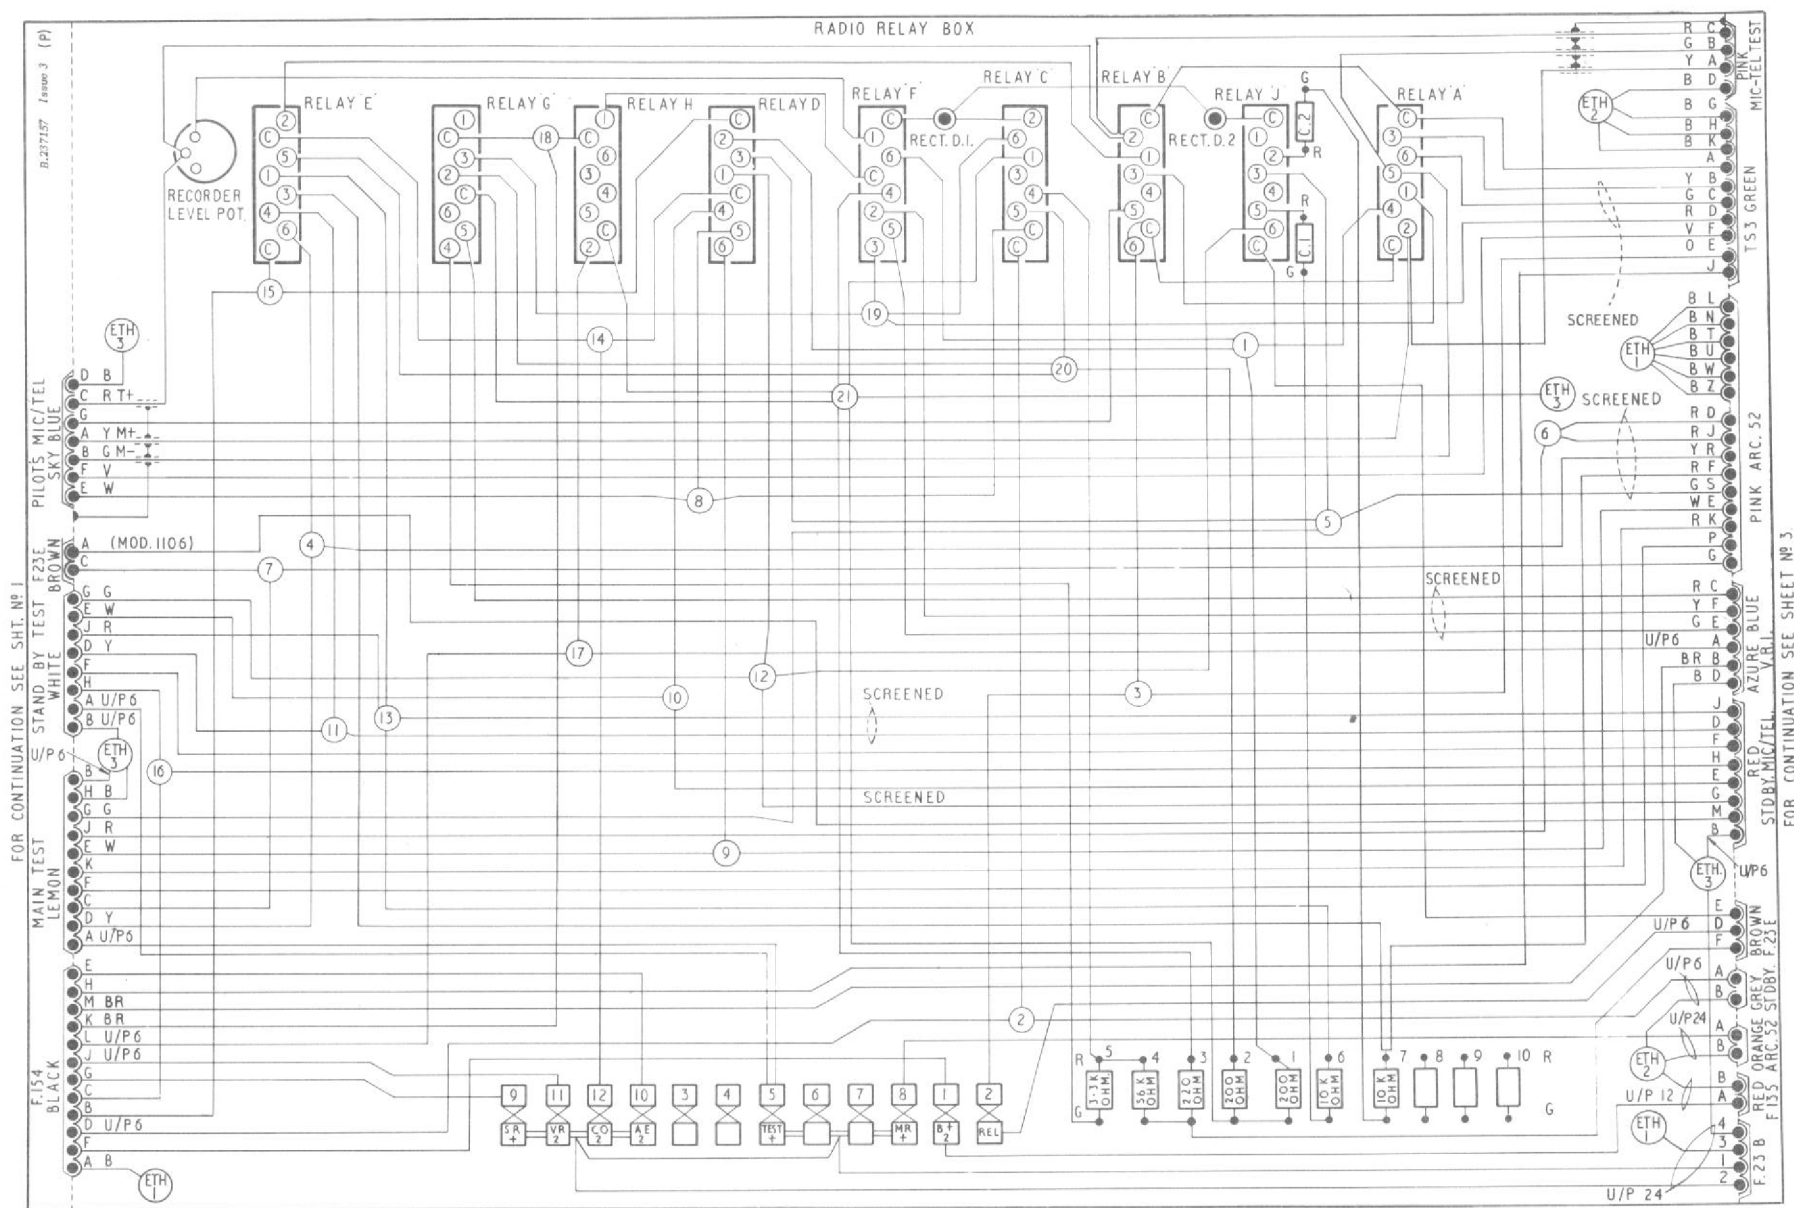

Fig. 3 Radio supplies-U.H.F. . telebriefing and voice recorder (routing sheet 2)
3. The radio relay box is mounted on the underside of the top radio mounting structure, in the radio bay; it contains most of the fuses and the relays that integrate the various circuits of the U.H.F. installation. These are illustrated diagrammatically in fig.3. All the fuses in use except No.1 and No.2 are fed from the U.H.F. services circuit-breaker; No.1 fuse is fed from the standby battery, and No.2 from two linked fuses on the supply panel which are supplied from the fire extinguisher circuit (Group C.2) No.2 fuse supplies energizing current to relays A and B in the tele-briefing circuit. The